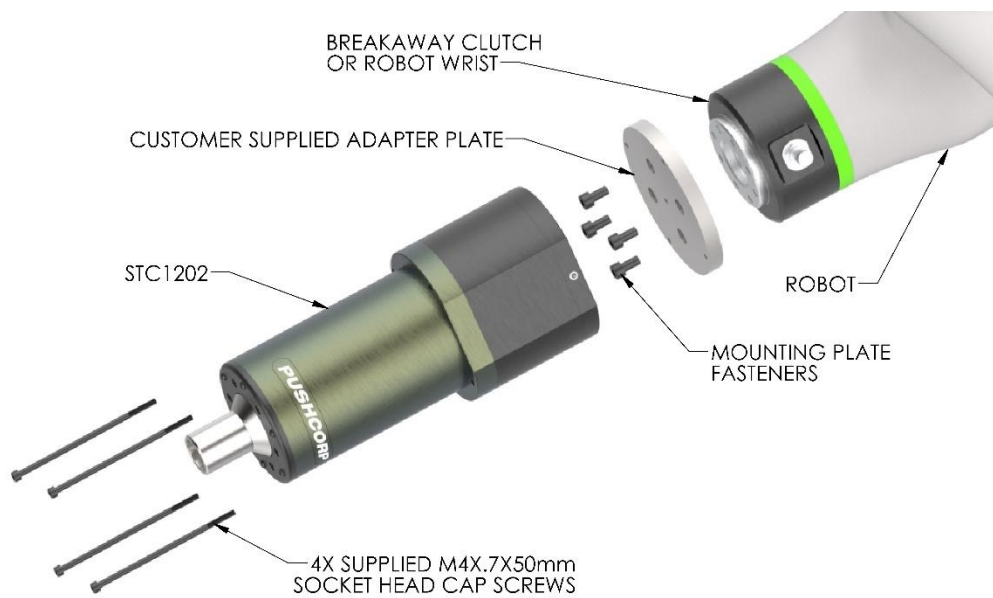

FIGURE 5: RIGID MOUNT - STC1202
To mount the motor, first attach the customer supplied Mounting Plate to the Robot Mounting Flange or to the Breakaway Clutch, per the manufacturer's specifications. Once the Mounting Plate is secured, place the motor against the Mounting Plate and install (4) four, M4x.7, Socket Head Cap Screws (See Figure 5). Tighten the fasteners to the torque specified in Section 4.0.